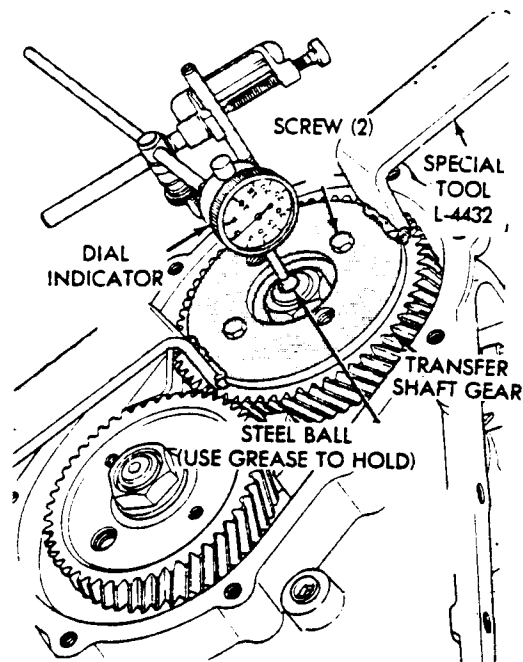

FIGURE 6
4. To measure bearing end play: (Reference Figure 6)